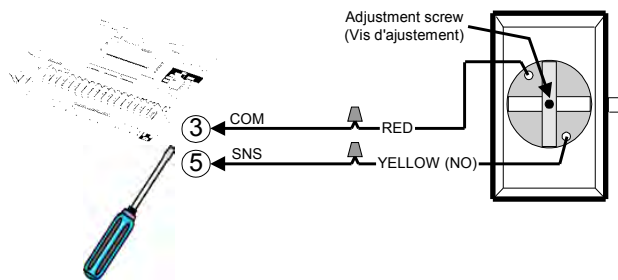
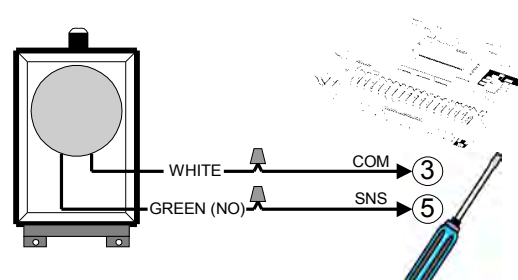

Figure 28 - AIRSWITCH 001 / 007
Figure 29 - AIRSWITCH 009
3. Use a coil cord or take-up reel to connect the air switch to the operator terminals. Install electric wires according to Figure 28 or Figure 29.